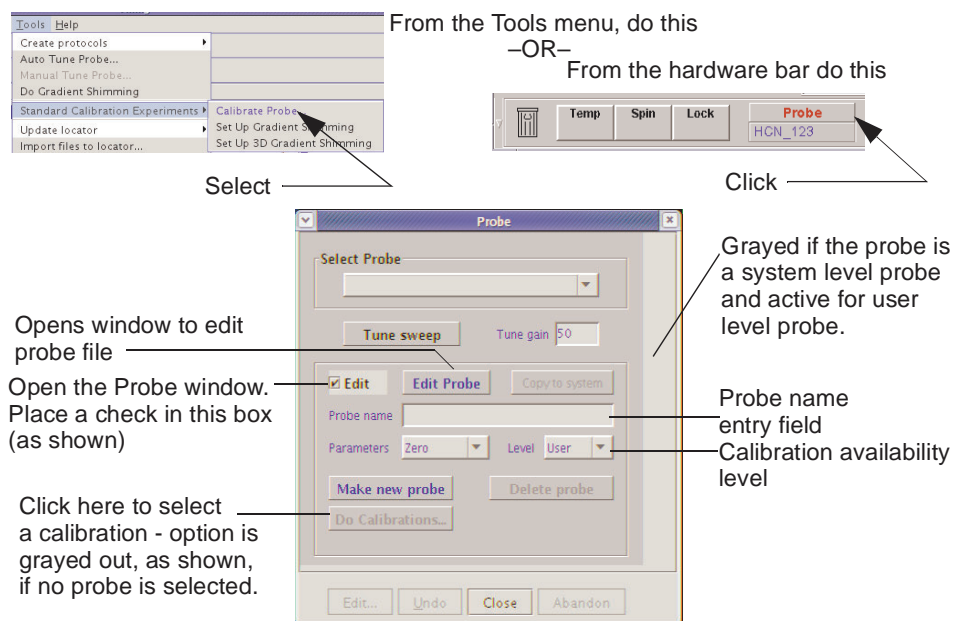

Figure 9. Calibrating a Probe
1. Do one of the following to start the probe calibration, see Figure 9, and open the probe window: